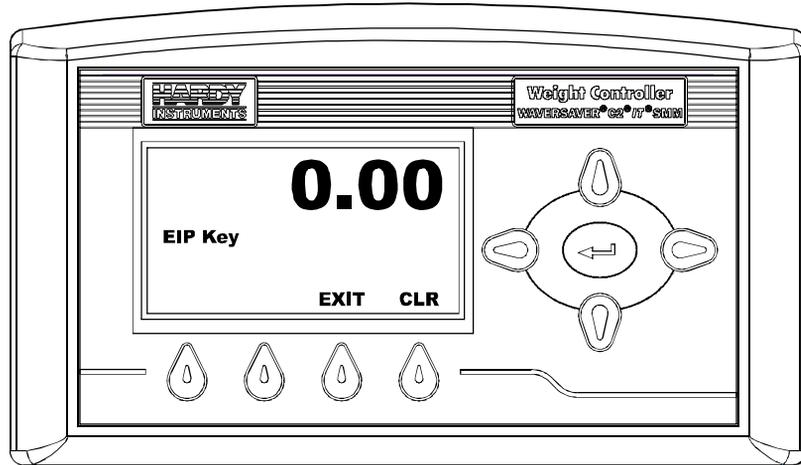

FIG. 128 EIP KEY MENU/NO KEY ENTERED
Step 6. Press the Enter button. The EIP Key Menu appears with no key entered. (See Fig. 128)